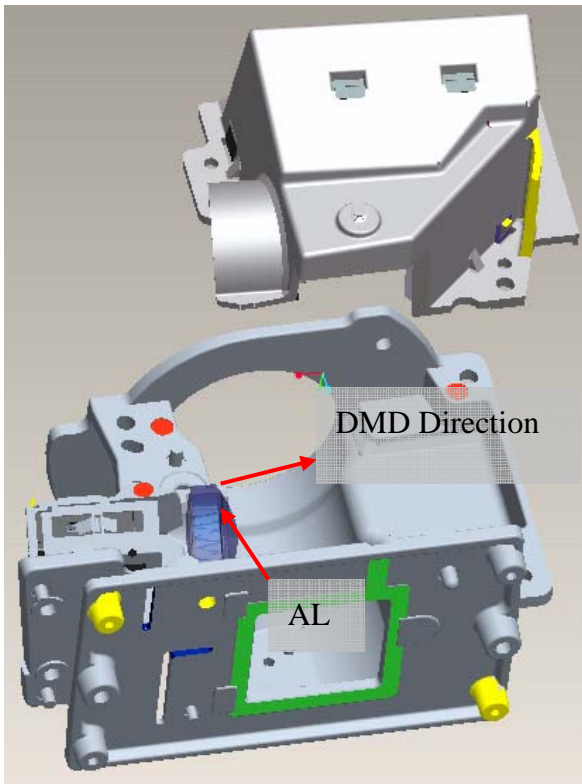

Fig. 7-1
7.1 Placed “AL” on the HSG DMD .The “raised surface” of “AL” shall toward “DMD direction” (Fig. 7-1)